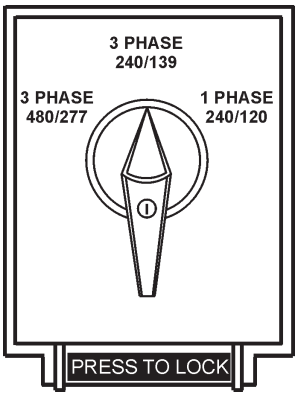

Figure 13. Voltage Change-Over Board
A wide range of voltages are available to supply voltage for many different applications. Voltages are selected by using the **voltage selector** switch (Figure 13). To obtain some of the voltages as listed in Table 7 (see below) will require a fine adjustment using the **voltage regulator (VR) control knob** located on the control panel.
The voltage selector switch (Figure 13) is located above the output terminal panel's Hard Wire Hook-up Panel. It has been provided for ease of voltage selection.
Before taking a reading from either gauge, set the **Voltage Selector Switch** (Figure 13) to the position which produces the required voltage (For example, for 3Ø 240V, choose the center 3Ø 240/139V position on the voltage selector switch)